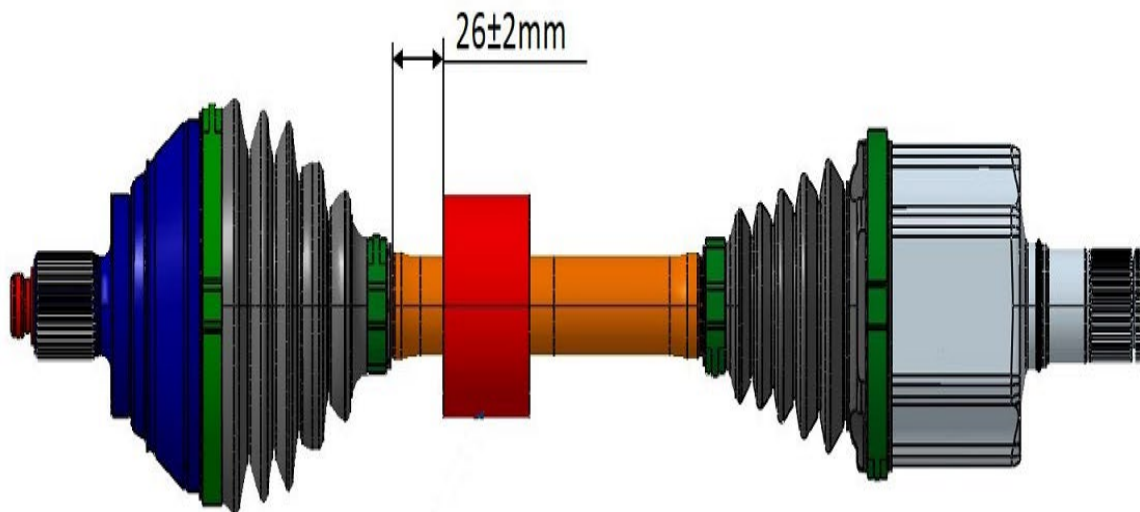

Figure 1. Installation position of damper weight on driver's side drive axle
- Position the damper weight on the driver's side drive axle as shown below (Figure 1) and mark the correct installation position. (Refer to Figure 1, dimension = 26 ± 2 mm) with a suitable pen.